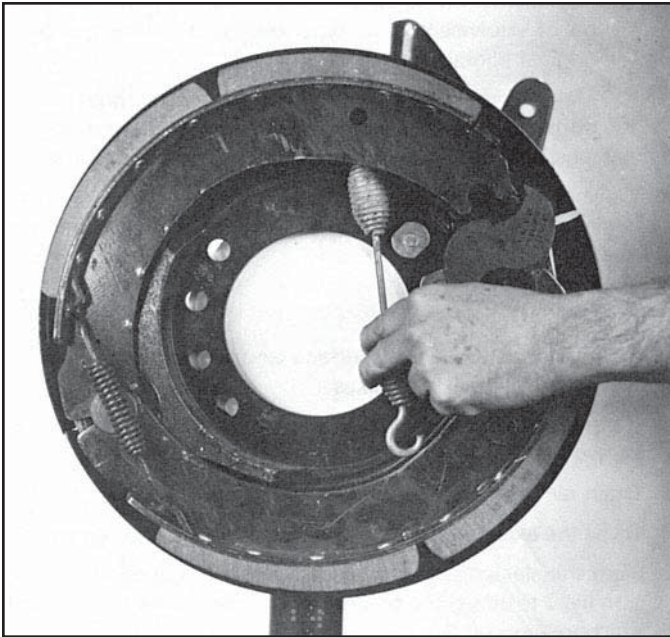

FIGURE 4 - REMOVING SHOE RETURN SPRING
2. Remove shoe return spring and discard. Force shoes towards the S-cam to relieve spring tension. (Figure 4)